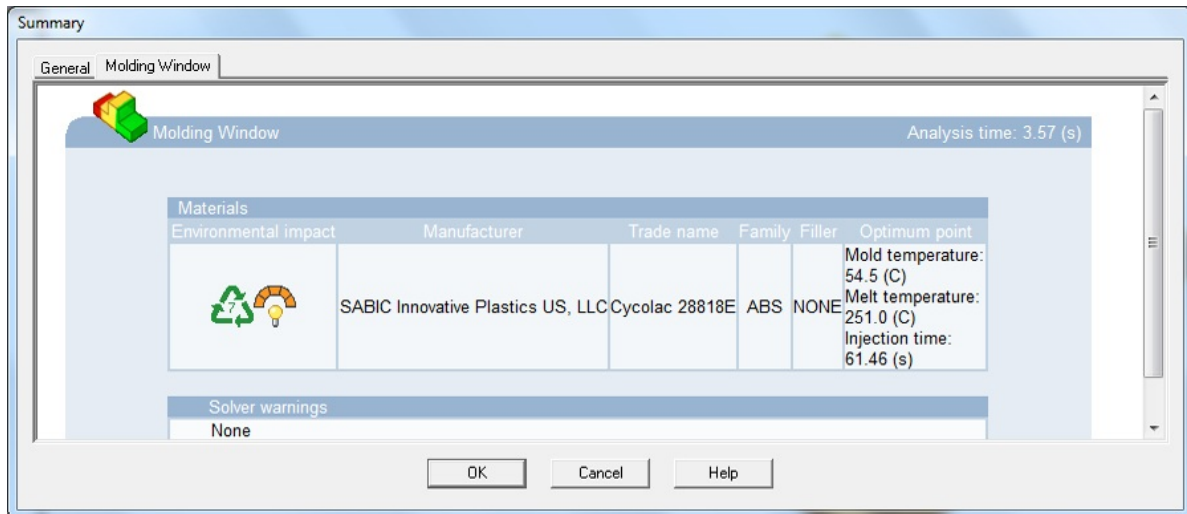

Figure 19-96 The Summary dialog box
4. After the analysis is complete, the **Summary** dialog box is displayed, refer to Figure 19-96. Choose the **OK** button from the dialog box; the suggested process settings are applied.